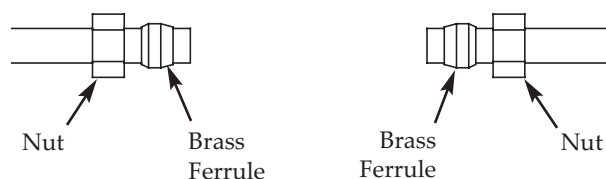

Figure 8
7. Place a nut and brass ferrule from compression fittings onto both pipe ends (See Figure 8).